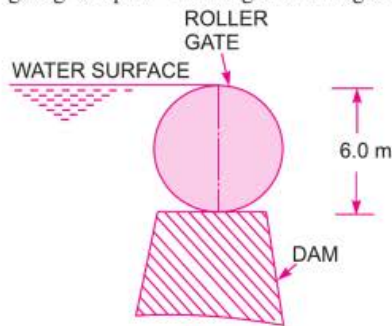

Fig. 3.59
20. A roller gate is shown in Fig. 3.59. It is cylindrical form of 6.0 m diameter. It is placed on the dam. Find the magnitude and direction of the resultant force due to water acting on the gate when the water is just going to spill. The length of the gate is given 10 m. [Ans. 2.245 MN , $\theta = 38^\circ 8'$]